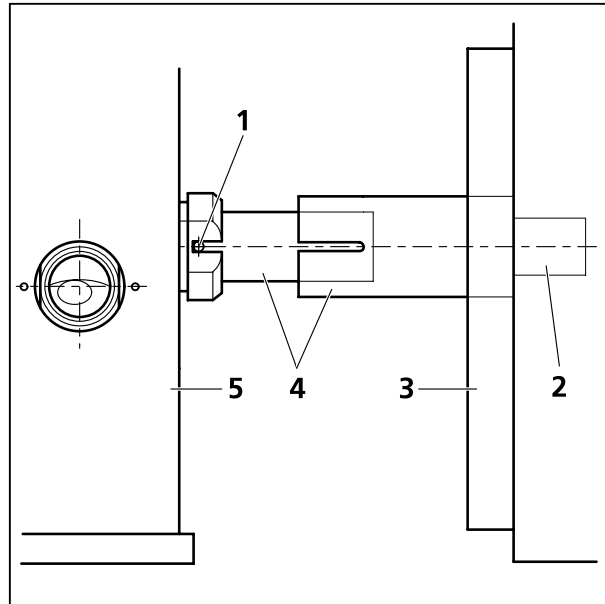

Fig. 27 Tube connection from the periscope housing (5) to the scan head (3). Applies for upright and inverted microscopes.
- First pull out the tube from the periscope cover (Fig. 27/5) by sliding the inner tube into the outer tube (Fig. 27/4).
- Turn the tube assembly counter clockwise to unscrew the tube (Fig. 27/4) from the small black tube (Fig. 27/2) which is fixed to the scan head (Fig. 27/3).
- For rearranging the beam housing, first screw the tube onto the small black tube (Fig. 27/2) at the back of the scan head (Fig. 27/3). It should not be fastened completely to allow the inner tube to fit the side pins into the recess of the ring on the periscope (Fig. 27/5).